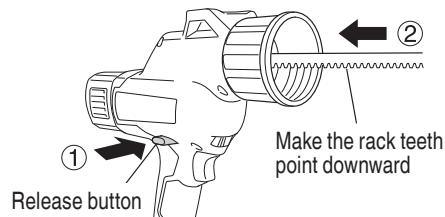

Fig. 13
(1) Attach the piston that corresponds to the sealing material to be used by screwing it into the rack.
(2) While pressing the release button to release the lock, insert the rack from the front side of the main body. Insert it so that the teeth of the rack are facing downwards. (Fig. 13)